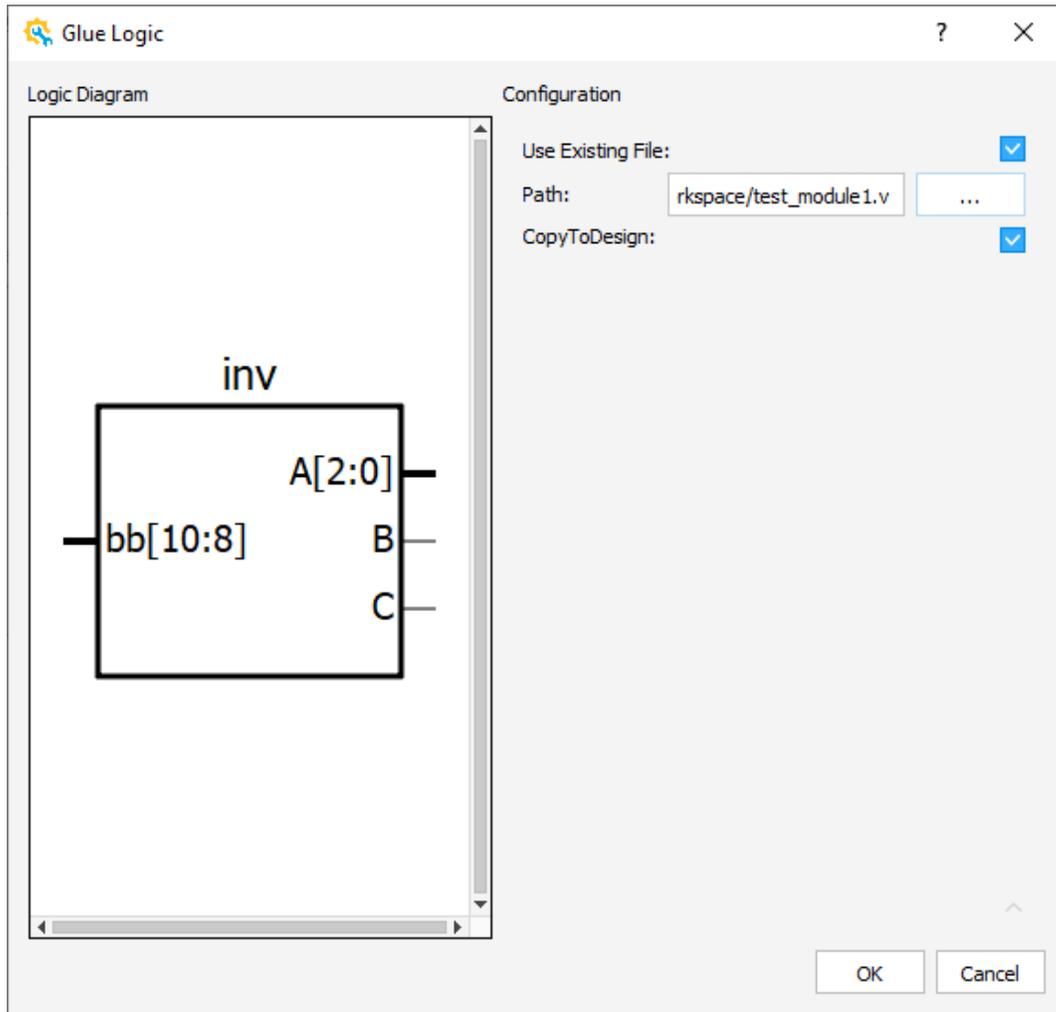

Figure 2.29. Existing RTL Module Configuration
3. Or you can use an existing RTL module by checking the **Use Existing File** checkbox. After checking the Use Existing File checkbox (Figure 2.29), browse to find the existing RTL module file path from the **Path** field. If you use an existing file, RTL references that file from the source. If you do not use an existing file, RTL creates a new file called `<module name>.v`. If **CopyToDesign** is enabled, a copy of the original source is created in the Propel project under `<project>/lib/gluelogics/`, if not enabled, it is referenced from its current location.